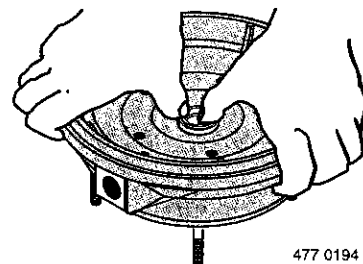

Figure 13
3. Press seat into cavity firmly and squarely with finger pressure. (Make sure polished face of seal is facing towards inside of pump). If seat will not locate properly, place a cardboard washer over polished face of seat and use piece of 3/4" standard pipe for pressing purposes (see Figure 13).
9. Screw impeller on shaft until impeller hub hits shaft shoulder. This will automatically locate seal in place and move the sealing washer face up against floating seat face (see Figure 13).